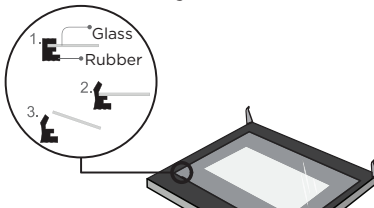

Figure 6
- 6. After pulling out the inner glass, please take out the middle layer glass as shown in Figure 6.